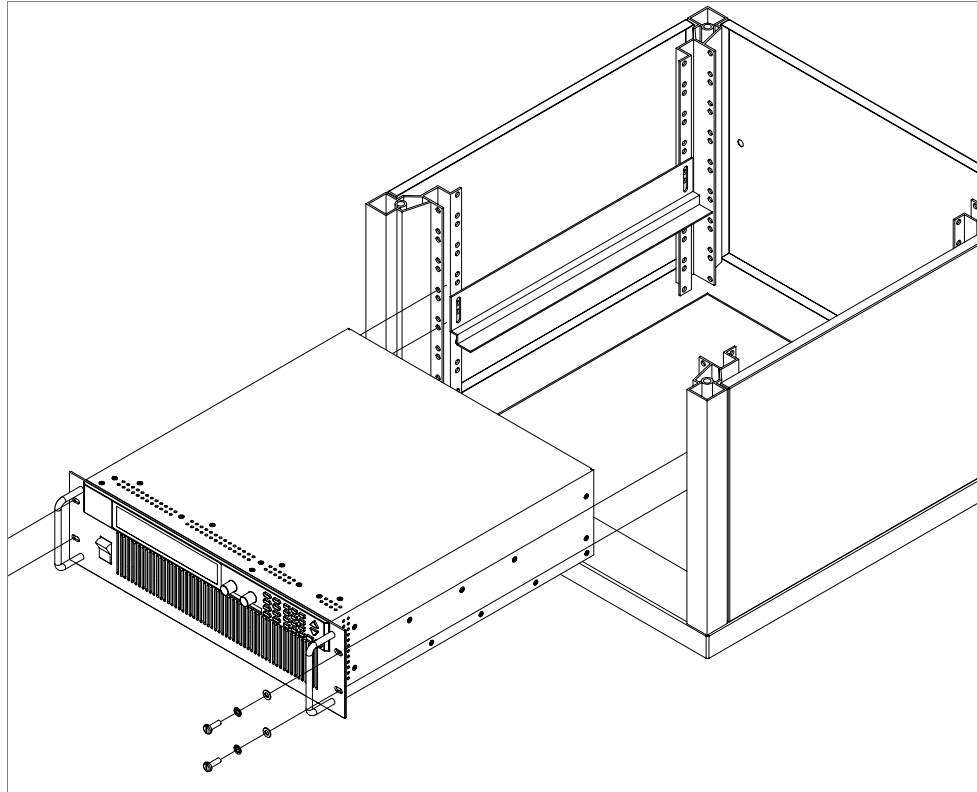

Figure 2.3 Mounting the Power Supply in the Rack With Support Rails¹
2. With the help of another person, lift the unit out of its package and slide it into an empty space in a mounting rack equipped with rails that are rated to support the unit's weight. See Figure 2.3.
4. The front panel mounting brackets are designed to prevent the unit from sliding out of the rack, not to support its full weight. Provide adequate support for the rear of the unit without obstructing the ventilation inlets. Use slide rails as illustrated in Figure 2.3 or slide brackets attached to the 3 mounting holes on each side of the unit. Follow the manufacturer's instructions to install rails or slides.